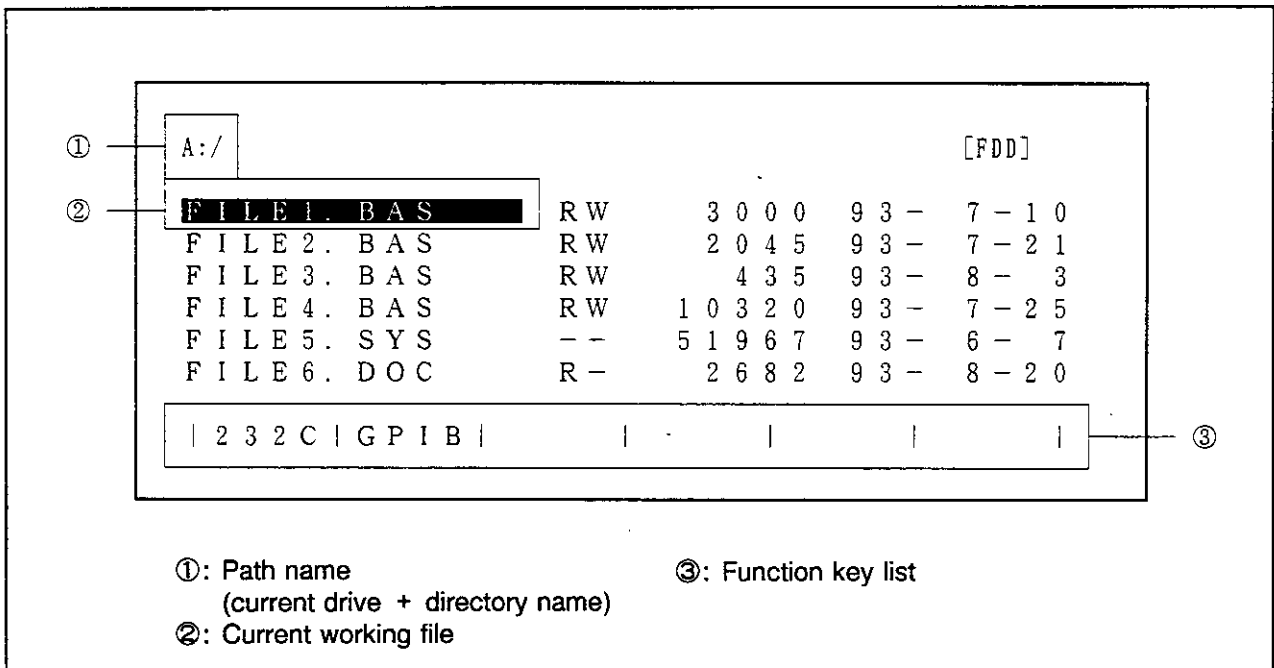

Figure 4-33 PRT Display Screen
③: The function key list indicates the function keys available by TYPE (file contents display).
(5) PRT (printer output of file contents) screen
When PRT (K3) is selected with the function key from the FILE mode, a screen like that shown in Figure 4-33 appears if the working file is a text file. (For details, see (2) in Section 4.1.4 "FILE Mode.")